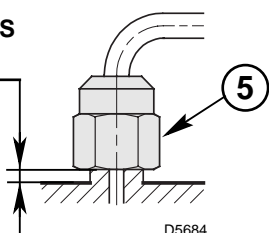

Fig. 13
- During the reassembly of the nozzle-holder assembly screw the nut (5) as shown in the fig. 13.
- In order to guarantee the sealing of the fan in its seat, make sure that there is at least 1 mm of spring tension between nozzle-holder assembly and casing. Therefore the fixing split pin (2) will have to be extended at least of 1 mm beyond the flange of the nozzle-holder assembly.